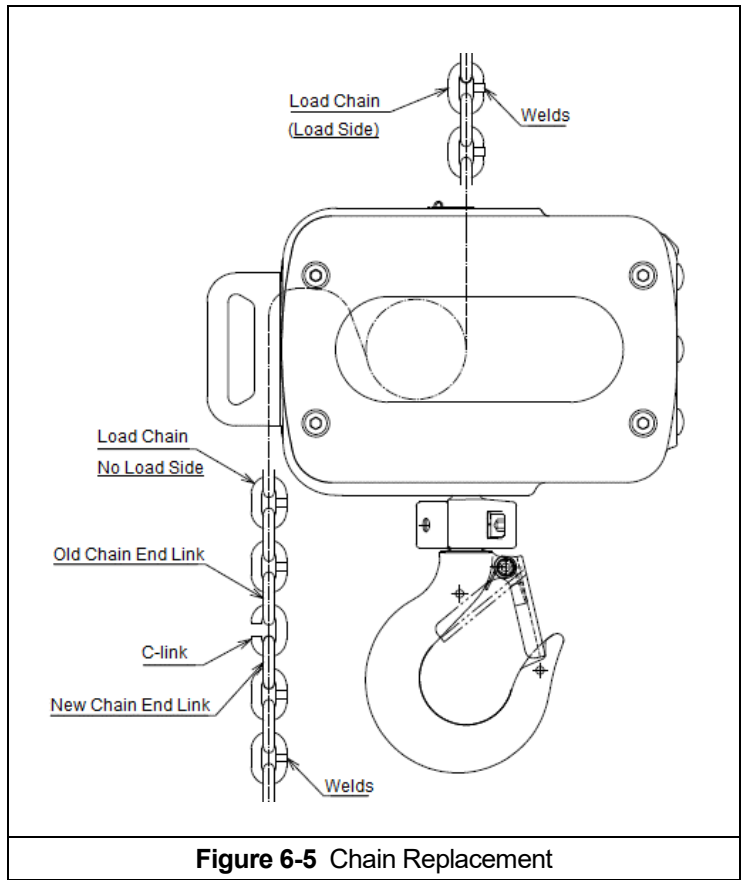

Figure 6-5 Chain Replacement
- 5) Using a C-link, attach the new chain to the end link of the old chain on the no-load side. The end link of the new load chain should be connected so that the welded portions of the load chain's standing links are oriented to the outside as they pass over the sheave. Refer to **Figure 6-5**.